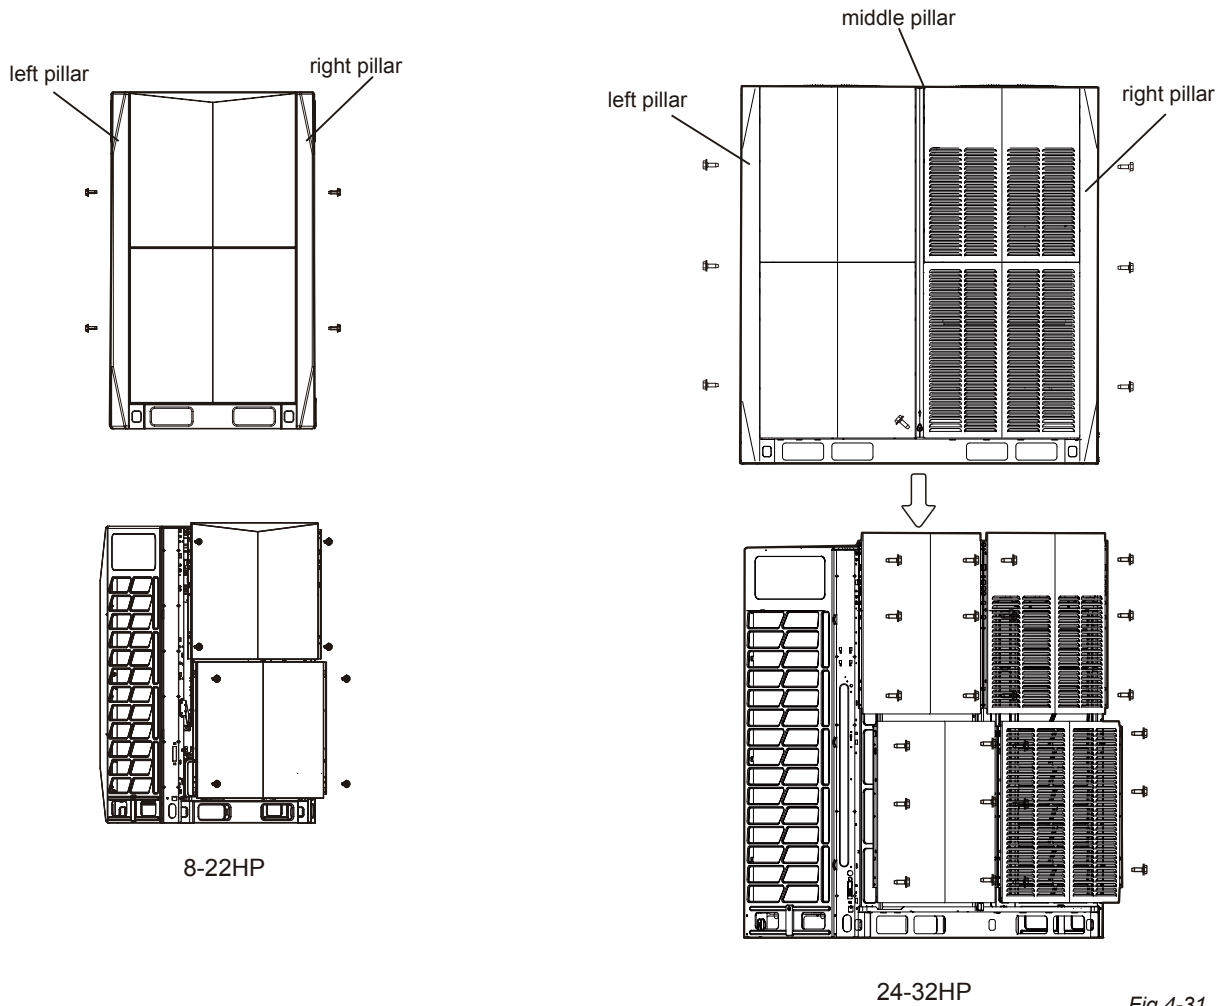

Fig.4-31
- 8HP-22HP: Dismantle the left and right pillars: Remove the 4 screws from the left and right pillars. (Fig.4-31). Rotate both and then lift them 2 mm (Fig. 4-32) to remove them; 24HP-32HP: Dismantle the left, right, and middle pillars: Remove the 6 screws from the left and right pillars. (Fig. 4-31). (Fig. 4-32) to remove them; 24HP-32HP: Dismantle the left, right, and middle pillars: Remove the 6 screws from the left and right pillars. (Fig. 4-31).
- Dismantle the upper panel: Remove 4 screws (8HP-22HP) or 6 screws (24HP-32HP) from the upper panel on left and right sides (Fig. 4-31 ). Dismantle the upper panel: Remove 4 screws (8HP-22HP) or 6 screws (24HP-32HP) from the upper panel on left and right sides (Fig. 4-31 and Fig.4-32). Then lift the panel 3mm to remove it.
- Dismantle the lower panel: Remove 4 screws (8HP-22HP) or 6 screws (24HP-32HP) from the lower panel on left and right sides (Fig. 4-31 and Fig.4-32) and then lift the panel 3 mm to remove it.